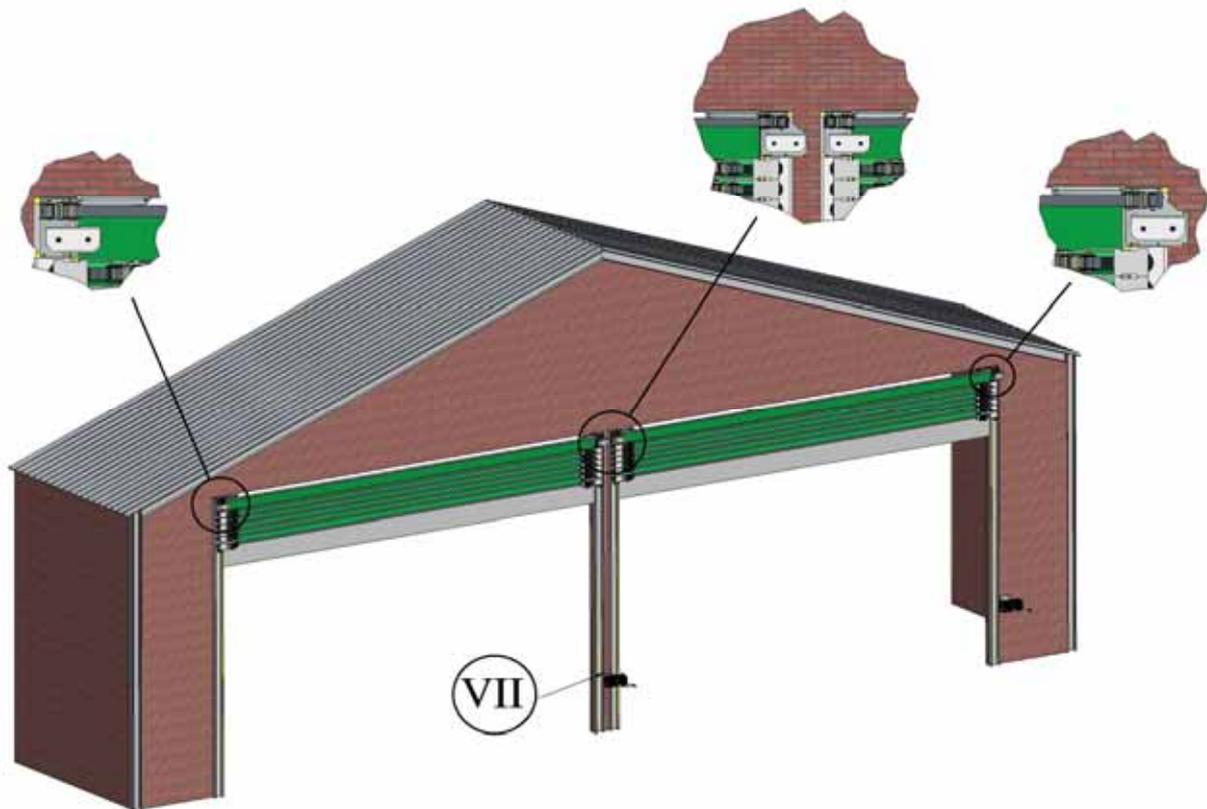

Figure 9b. One centrally mounted drive
- ❖ If one of the drives is to be mounted to the central column then the minimum width of the central column is 500mm (Figure 9b).